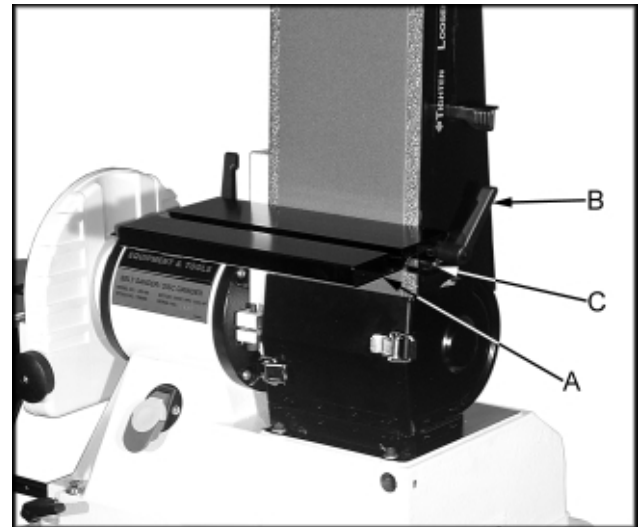
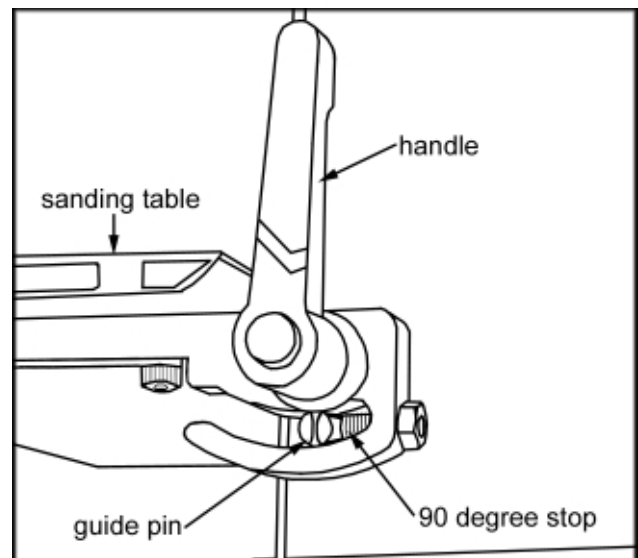

Fig. 2
Fig. 3
3. Mount the sanding belt table (A, Fig. 2) to the sander with two locking handles (B, Fig. 2), two 5/16" flat washers. The handle stud needs to go through the upper slot, and the guide pin (C, Fig. 2 & Figure 3) located on the sander should rest in the lower slot.